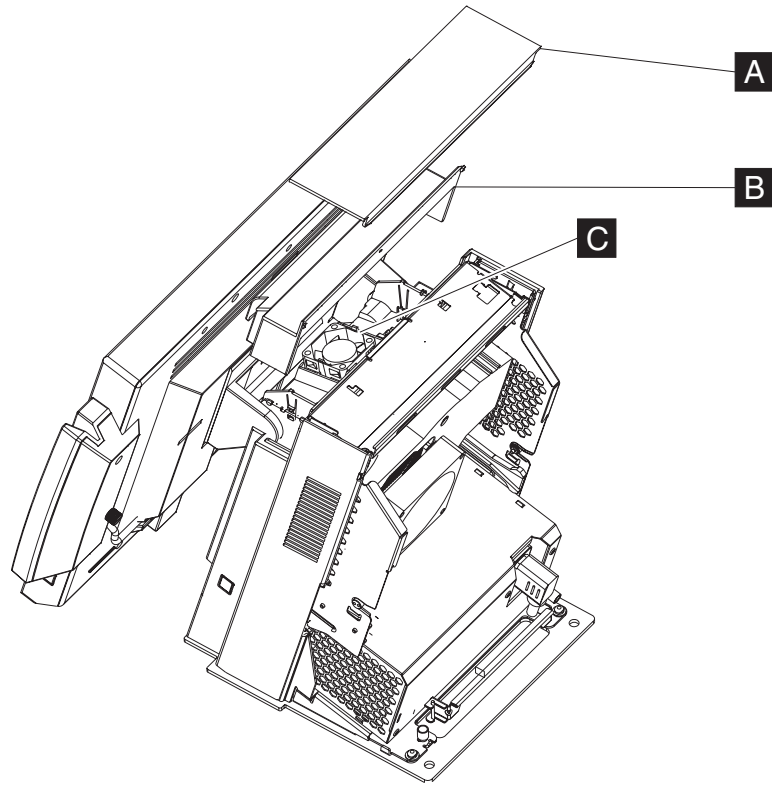

Figure 20. Removing the HDD fan and bracket
3. Remove the top cover (**A** in Figure 20) as described in “Top cover removal” on page 33.
4. Remove the tower center cover (**B** in Figure 20) by lifting upward.
5. See Figure 20. Unsnap and remove the HDD fan (**C**) and bracket to remove.